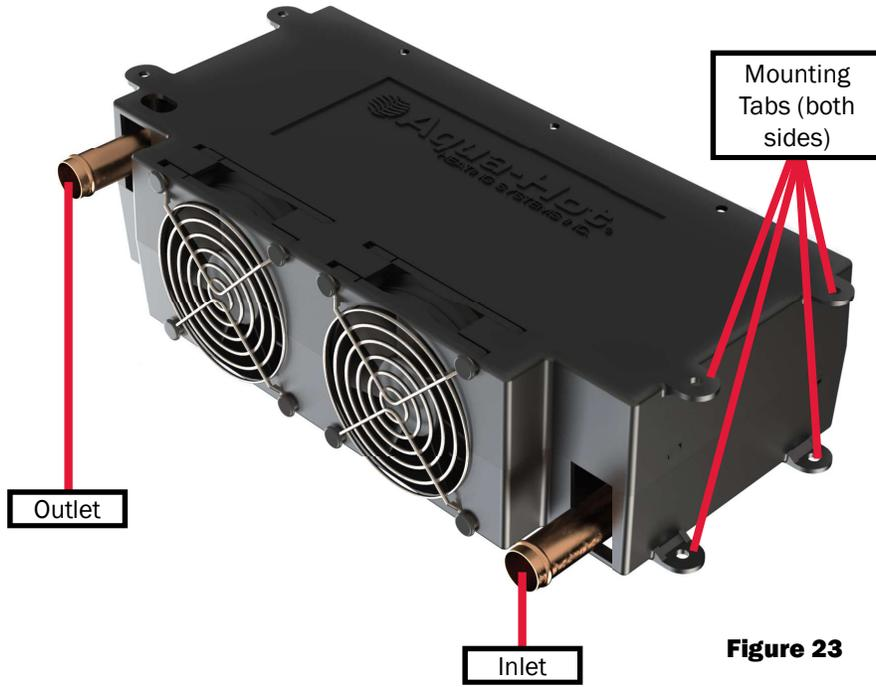

Figure 23
- The antifreeze and water heating solution must flow in through the bottom of the heat exchanger, and out the top (reference Figure 23).
2. Mount each heat exchanger permanently into place. There are 4 tabs on both sides - see Figure 23.